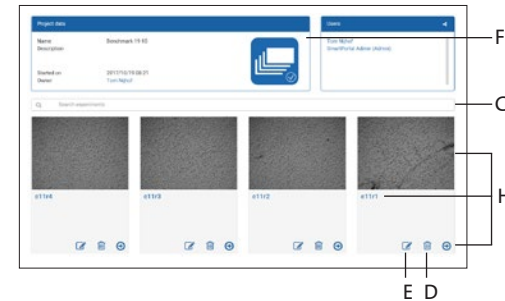

Figure 24. Overview of all experiments assigned
After selecting a project (C), you will get access to an overview of all experiments assigned to that project (Figure 24). At the top, you can see an overview of the project data (F). As with the project overview, use the ‘Search’ bar (G) to find a specific experiment within a project.